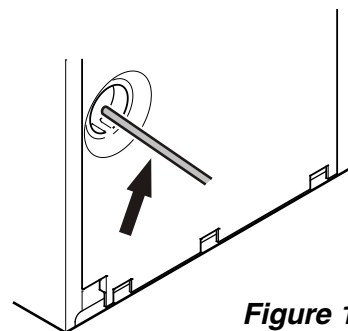

Figure 13
2. Insert the water supply line into its intended opening at the back of the appliance (**Figure 13**).